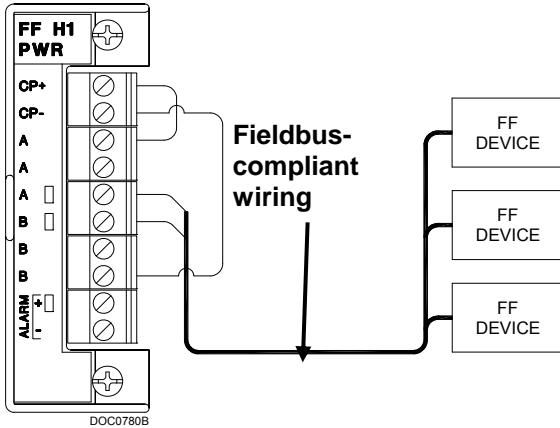
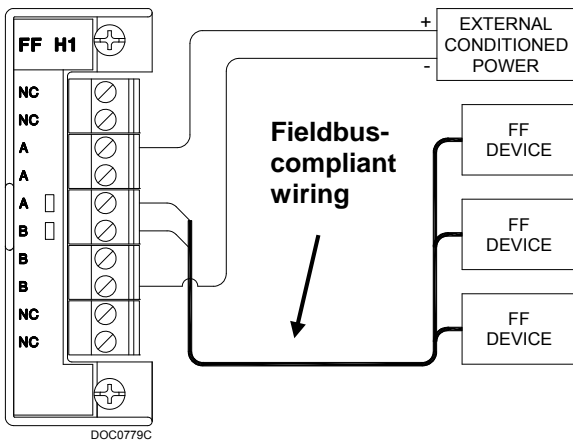

Figure 5. Field Wiring for Powered H1 Module
Figure 6. Field Wiring for Unpowered H1 Module
3. Tighten the screw. See *Figure 5* or *Figure 6*.
The FFI supports up to four of either of two kinds of H1 segment modules. Powered modules (see *Figure 5*) provide up to 125 mA of conditioned power.
Use unpowered H1 modules and an external fieldbus-approved conditioned power supply (see Figure 6) when you are uncertain about the power draw or the number of fieldbus devices.